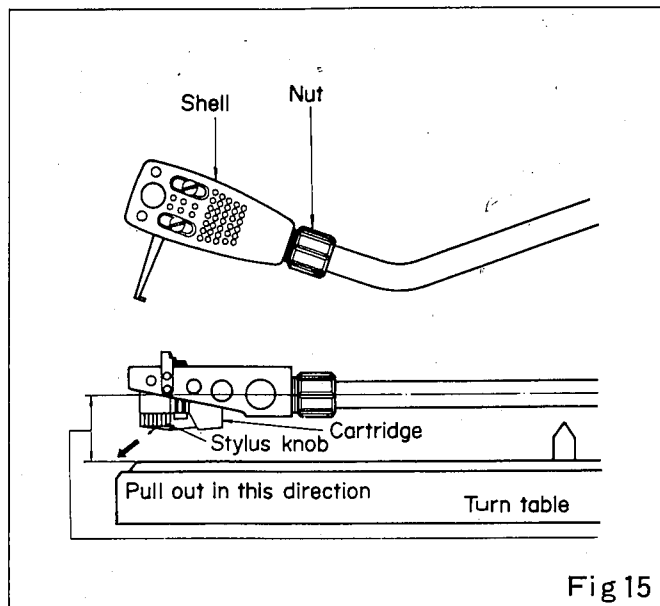

Fig 15
2. To remove the old stylus, pull out the stylus assembly holding the cartridge with your other hand. (Fig. 15)